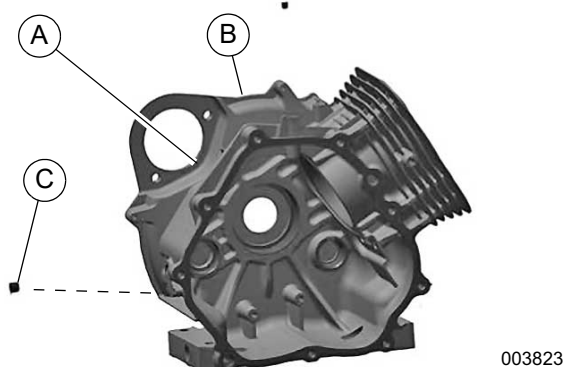

Figure 14-1. Base Crankcase Assembly
1. See Figure 14-1. Inspect crankcase (A) to verify governor hole (B) is not plugged. Verify oil level switch wire hole plug (C) is in place. Hole plug edges should be flush with crankcase surface.